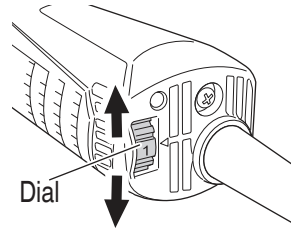

**Fig. 4**
Do not apply the entire surface of the depressed center wheel to the material to be ground. As shown in **Fig. 4**, the machine should be held at an angle of  $15^{\circ} - 30^{\circ}$  so that the external edge of the depressed center wheel contacts the material at an optimum angle.
4. To prevent a new depressed center wheel from digging into the workpiece, initial grinding should be performed by drawing the grinder across the workpiece toward the operator (**Fig. 4 direction B**). Once the leading edge of the depressed center wheel is properly abraded, grinding may be conducted in either direction.